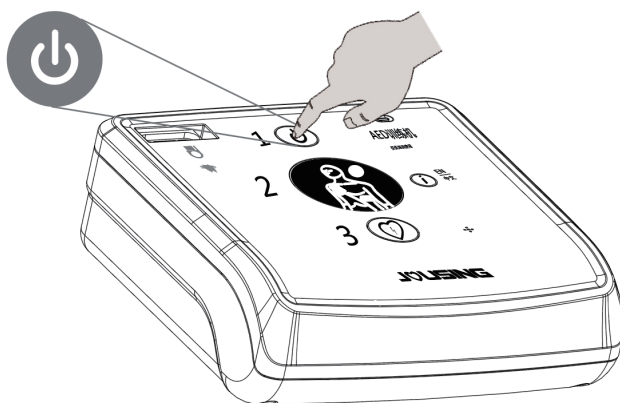

Figure 8 Powering on the Trainer
1. Press the ON/OFF button (see Figure 8).